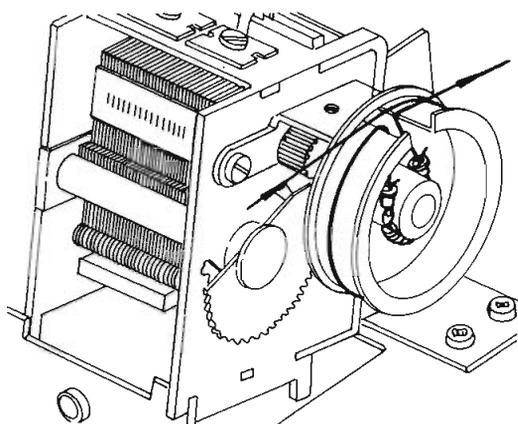

Fig. 2-9 Location of tension spring and dial-cord
5. Wind one turn of the cord clockwise around the drum as close to the inner flange as possible. See Fig. 2-9.
6. Run the cord through the slot in the rim of the drum in such a way that the spring comes to the position shown in Fig. 2-9.